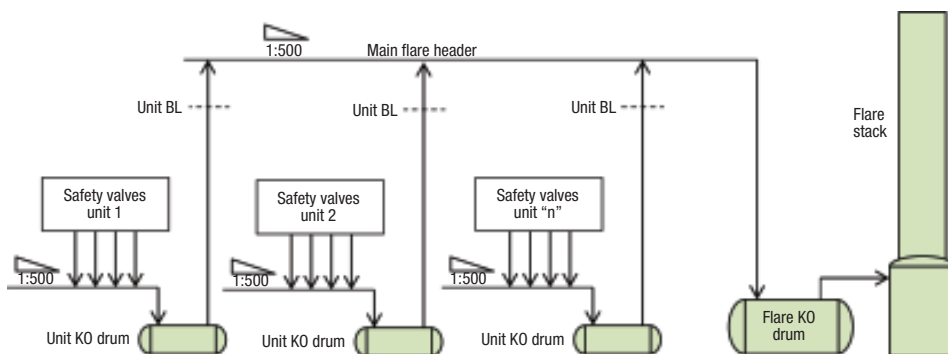

FIGURE 1. This sketch shows a simplified pressure-relief system for a petroleum refinery
Let's assume that an operating team tries to prevent a future tube failure like the one shown in Figure 1. In order to achieve this goal, it is obvious that they need to troubleshoot the deterioration mechanisms that are responsible for this event. First of all, an inspection team should identify the nature of tube-deterioration mechanisms that have led to such a disaster. A preliminary analysis would demonstrate that severe tube creep accompanied by internal fouling (coke buildup) are to
FIGURE 7. This graph shows the operating history of the process fluid flowrate in four passes of a vacuum distillation unit charge heater. Ignoring early signs of internal fouling caused by rapid coke buildup, led to disastrous tube rupture, like the one depicted in Figure 1
future internal-fouling problems, as for the case history shown in Figure 1. Surveying the operating history of the heater proved that long-time local flame impingement was the main cause of this event, and tuning the draft and excess-air amounts could have solved the problem in the first place.
A closed pressure-relief system is designed to safely control overpressurization of process units during emergencies by relieving the vapors to the flare, which destroys hydrocarbons in a high-temperature flame. Figure 1 shows a typical closed relief system that collects vapors and liquids in process-unit headers and separates the liquid in process-unit knockout (KO) drums before sending the vapor phase to the main flare header, and finally to the flare unit for destruction.